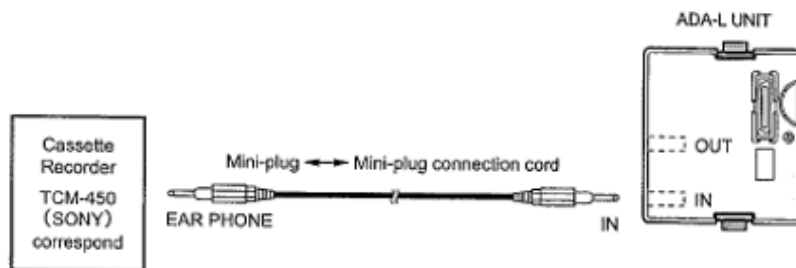

Figure 6-28 ADA-L IN Jack Connection
2. Using the mini-plug connection cord, connect the the ADA-L Unit IN jack to the cassette recorder EAR PHONE jack (Refer to Figure 6-28 ADA-L IN Jack Connection).